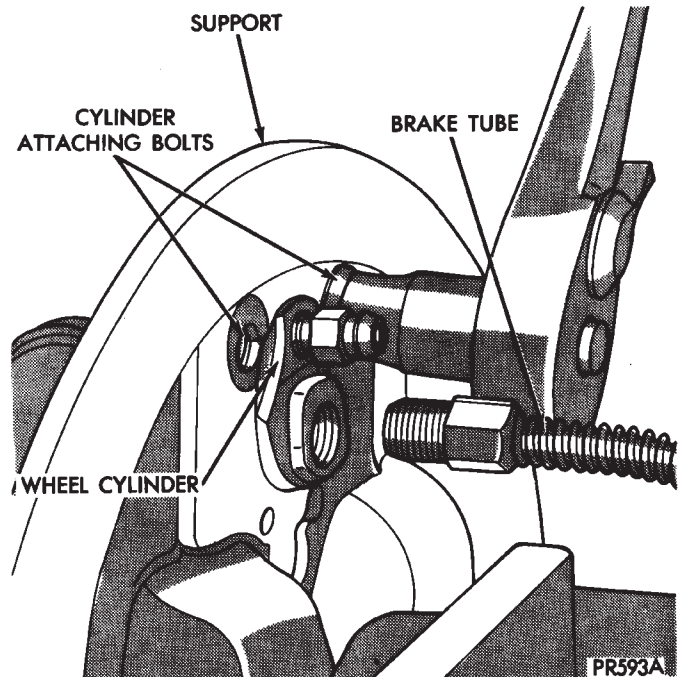
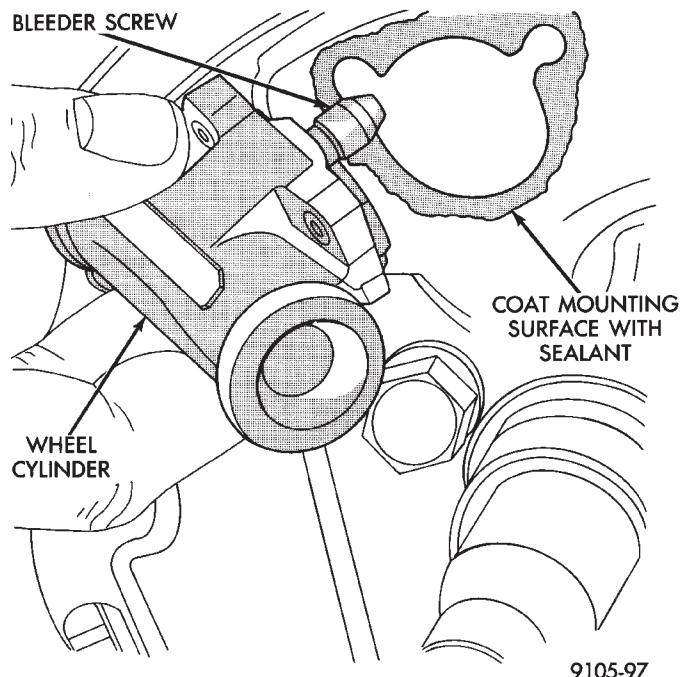

Fig. 1 Brake Tube Disconnected
Fig. 2 Remove or Install Wheel Cylinder
(1) In case of a leak, remove brake shoes, (replace if soaked with grease or brake fluid.)
(2) Disconnect brake tube from wheel cylinder (Fig. 1).
(3) Remove the rear wheel cylinder attaching bolts (Fig. 1). Then pull wheel cylinder assembly off the brake support plate (Fig. 2).